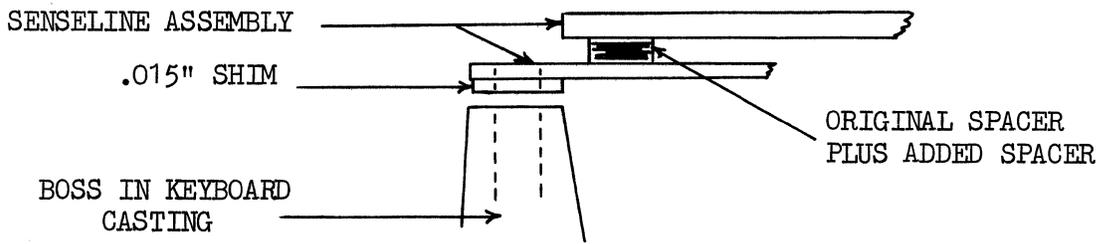

Figure 2. Senseline Mounting
20. Glue the two (2) fishpaper shims to either end of the senseline mounting plate so that the fishpaper will be between the mounting plate and the keyboard casting when the senseline assembly is installed in the keyboard. See Figure 2.